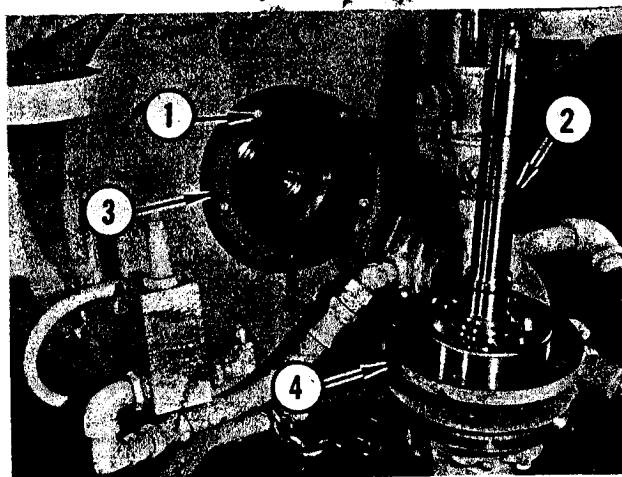

FIGURE 25. OUTPUT SHAFT REMOVAL
Refer to Figure 25. Remove five nuts and lockwashers from bearing retainer studs (1). Remove output shaft assembly (2). Remove shims (3) and attach to bearing retainer (4) to assure using the same quantity at time of reassembly.
Reverse the numerical sequence of disassembly as shown in Figures 25 and 26 and the following information: